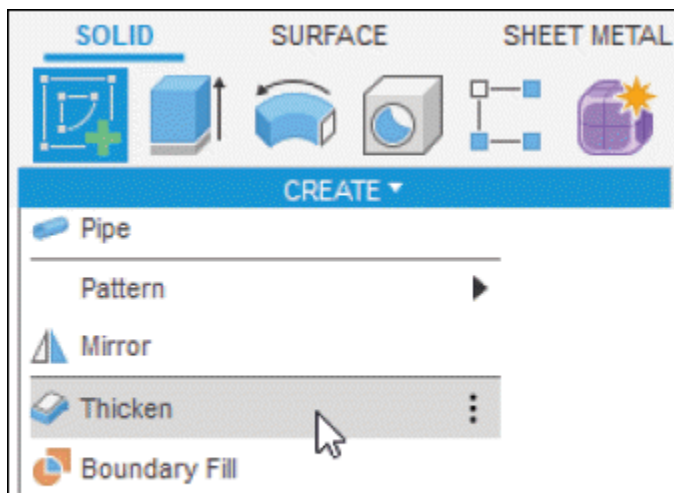
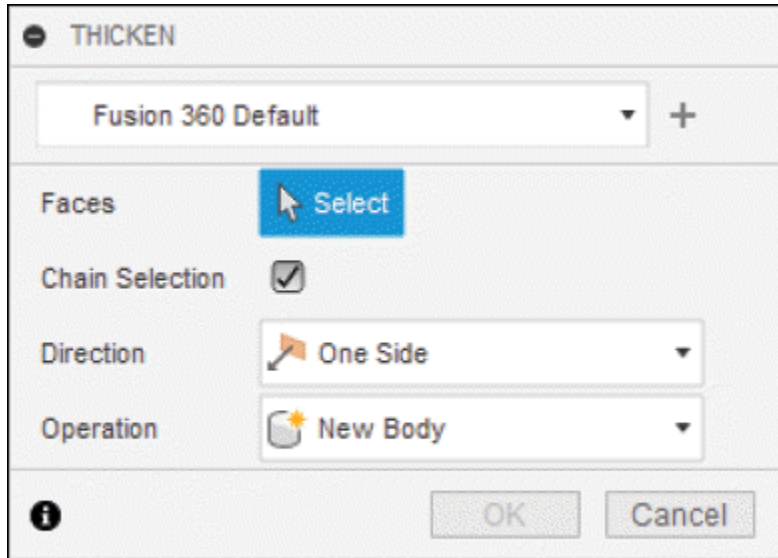

Figure-114. Thicken tool
Figure-115. THICKEN dialog box
- Click on **Thicken** tool of **CREATE** drop-down from **Toolbar**; refer to Figure-114. A **THICKEN** dialog box will be displayed; refer to Figure-115.